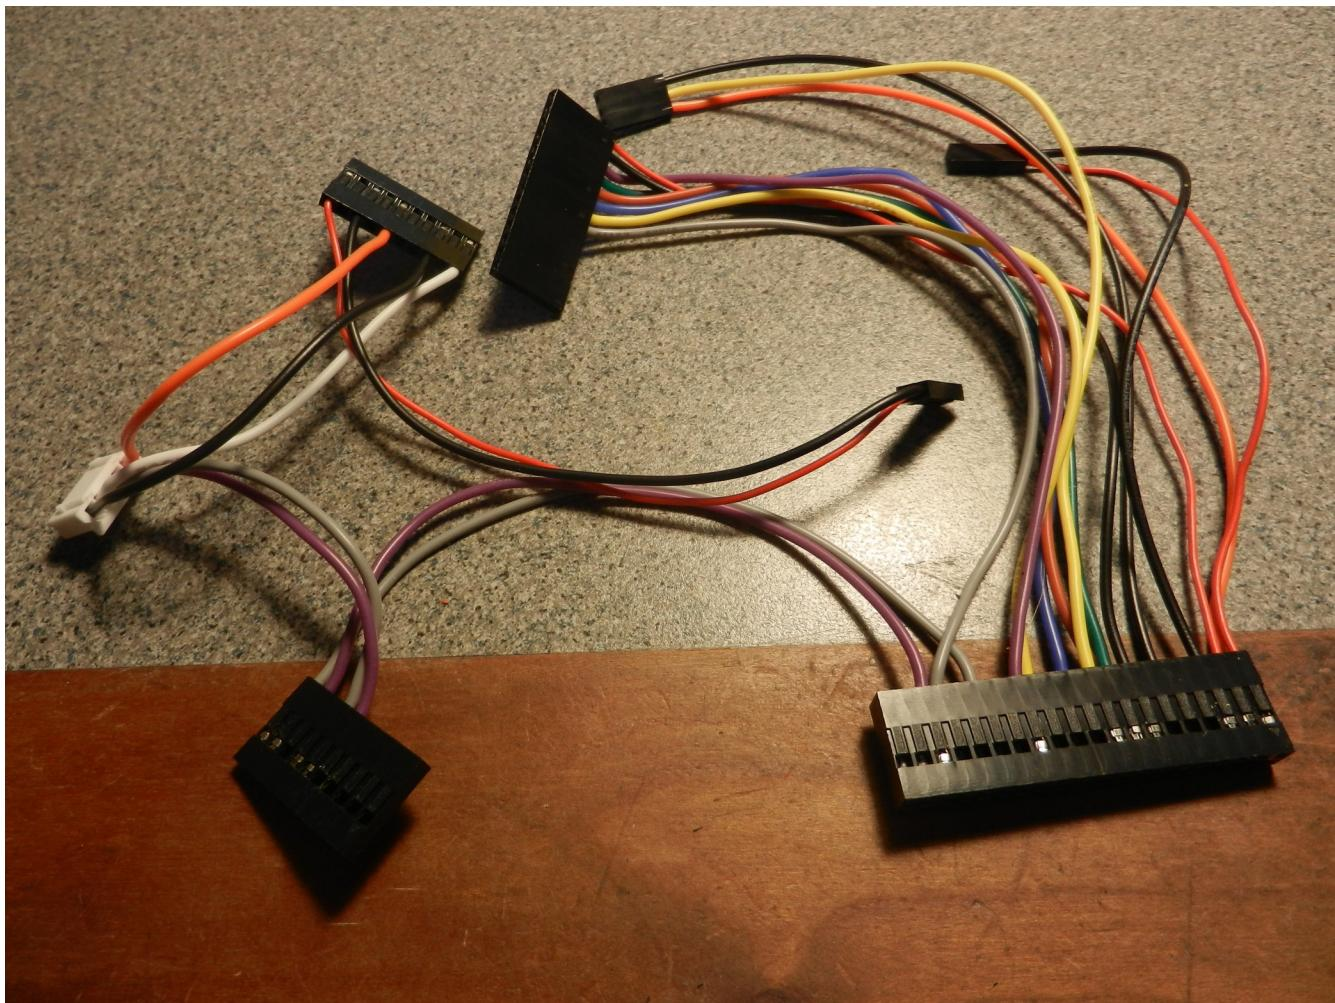

Figure 19, Wiring Harness when using Pico.
2. Turn the case over. Looking in from the back side, you are going to pass the entire LED strip through the rectangular hole on your right side, top of the 10 LED holder (see Figure 19). Thread the strip through, starting with the input edge of the 25 LED strip, followed by the input edge of the 23 LED strip and then the input edge of the 10 LED strip. The three pin connector on the output